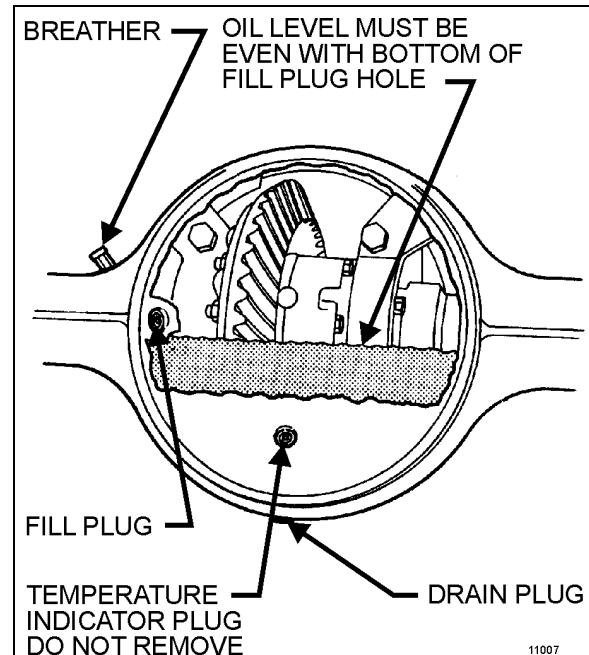

FIGURE 4: DIFFERENTIAL HOUSING BOWL
3. Clean the area around the fill plug. Remove the fill plug from the differential axle housing bowl (Figure 4).